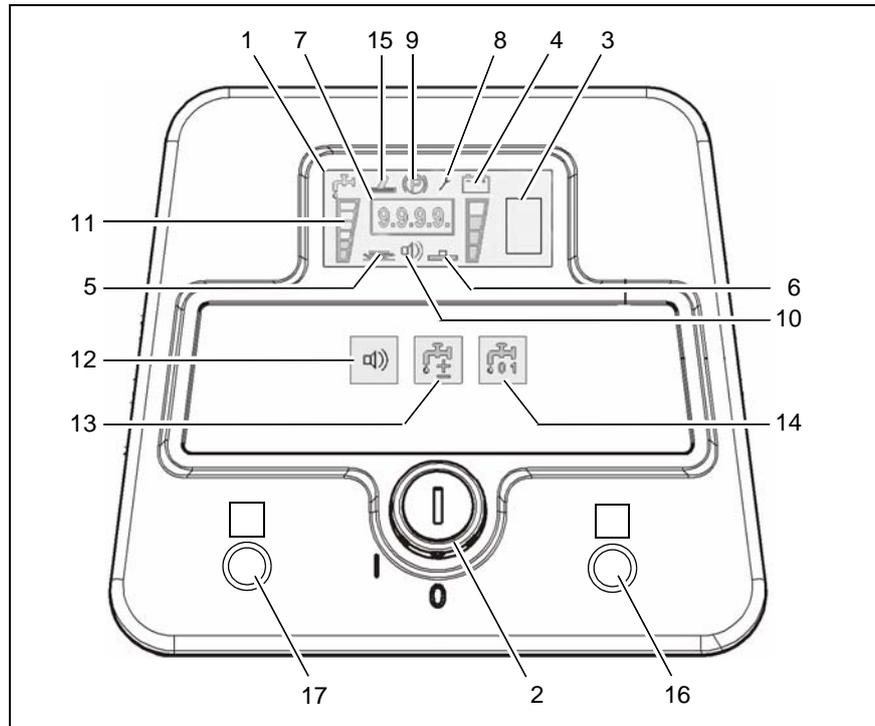

Fig.4
3. Switch on clear water supply by means of tip-switch (Fig. 4/14).
4. Adjust fresh water amount by means of tip-switch (Fig. 4/13).
Display (Fig. 4/1)
Battery charge indication (Fig. 4/3)
LDS indicator (Fig. 4/4)
Symbol brush drive (Fig. 4/5)
Symbol suction turbine drive (Fig. 4/6)
Hourmeter (Fig. 4/7)
Service indicator (Fig. 4/8)
Parking brake symbol (Fig. 4/9)
Silence Kit tip symbol (optional) (Fig. 4/10)
Clear water dosage symbol (Fig. 4/11)
Silence Kit tip-switch (optional) (Fig. 4/12)
Clear water dosage tip-switch (Fig. 4/13)
Clear water supply ON/OFF tip-switch (Fig. 4/14)
Scrubbing tool symbol (optional) (Fig. 4/15)
This symbol appears when scrubbing tool-switch (Fig. 4/16) is switched on
Tip-switch Acoustic warning signal (optional) (Fig. 4/17)